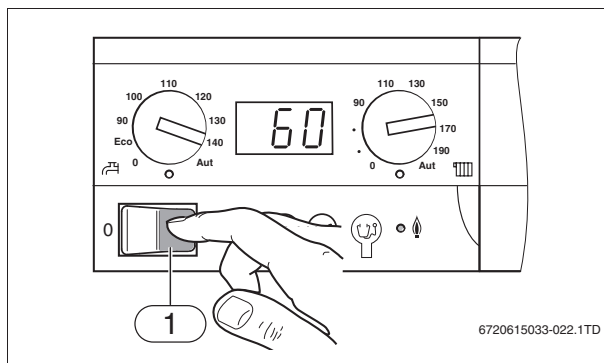

Fig. 21 Mains switch
- ▶ Switch on the boiler using the main switch (→ fig. 21).